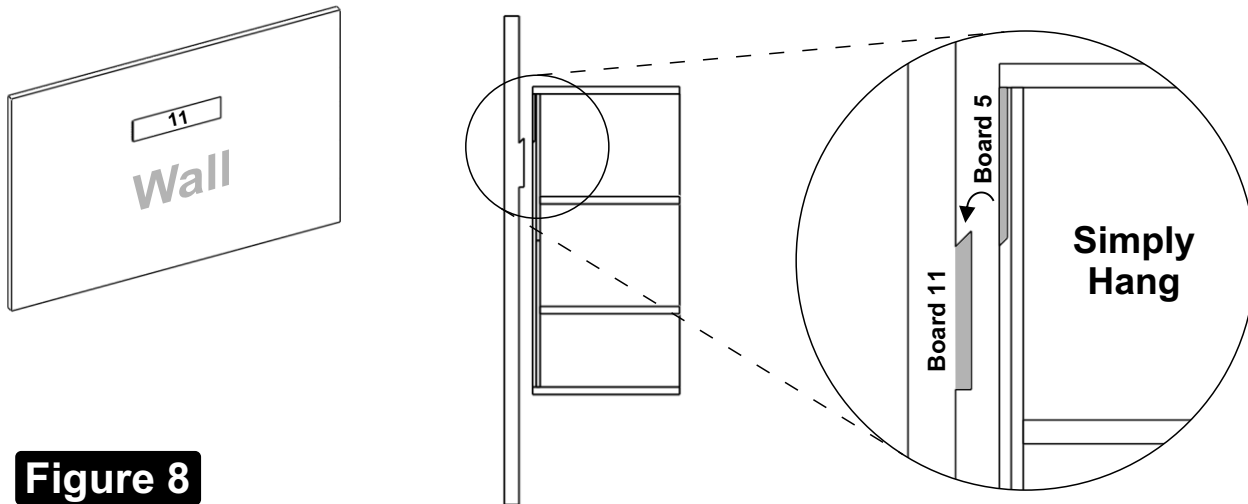

Figure 8
Step 8 : Affix **Board 11** on wall. Hang the Cabinet assembly onto the Board 11 as shown in Figure 8.